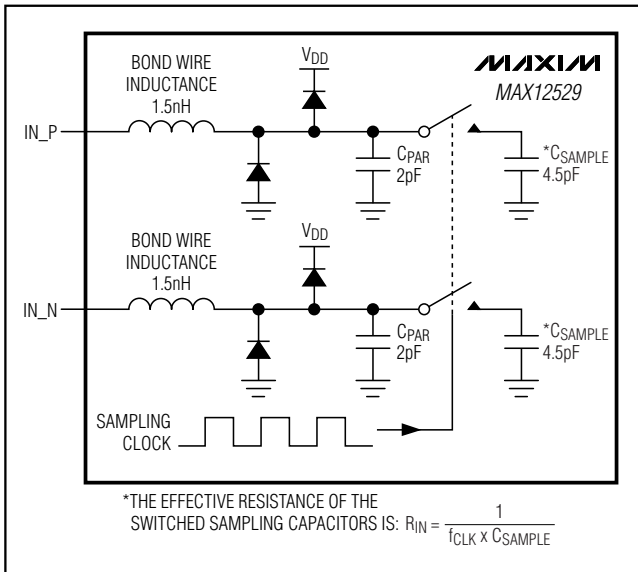
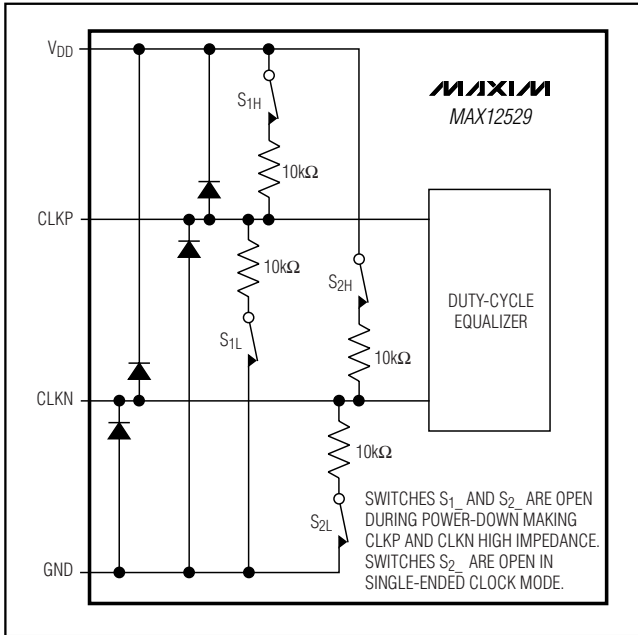

Figure 3. Internal T/H Circuit
Figure 4. Simplified Clock Input Circuit
Figure 3 displays a simplified functional diagram of the input T/H circuit. This input T/H circuit allows for high analog input frequencies of 175MHz and beyond and supports a $V_{DD} / 2$ common-mode input voltage.
The MAX12529 sampling clock controls the switched-capacitor input T/H architecture (Figure 3) allowing the analog input signals to be stored as charge on the sampling capacitors. These switches are closed (track mode) when the sampling clock is high and open (hold mode) when the sampling clock is low (Figure 4). The analog input signal source must be able to provide the dynamic currents necessary to charge and discharge the sampling capacitors. To avoid signal degradation, these capacitors must be charged to one-half LSB accuracy within one-half of a clock cycle. The analog input of the MAX12529 supports differential or single-ended input drive. For optimum performance with differential inputs, balance the input impedance of IN_P and IN_N and set the common-mode voltage to mid-supply ($V_{DD} / 2$). The MAX12529 provides the optimum common-mode voltage of $V_{DD} / 2$ through the COM output when operating in internal reference mode and buffered external reference mode. This COM output voltage can be used to bias the input network as shown in Figures 9, 10, and 11.
The MAX12529 accepts both differential and single-ended clock inputs with a wide 25% to 75% input clock duty cycle. For single-ended clock input operation, connect DIFFCLK/SECLK and CLKN to GND. Apply an external single-ended clock signal to CLKP. To reduce clock jitter, the external single-ended clock must have sharp falling edges. For differential clock input operation, connect DIFFCLK/SECLK to OVDD. Apply an external differential clock signal to CLKP and CLKN. Consider the clock input as an analog input and route it away from any other analog inputs and digital signal lines. CLKP and CLKN enter high impedance when the MAX12529 is powered down (Figure 4).
- 1) INAP/B and INAN/B analog inputs are disconnected from the internal input amplifier (Figure 3).
- 6) CLKP and CLKN clock inputs enter a high-impedance state (Figure 4).